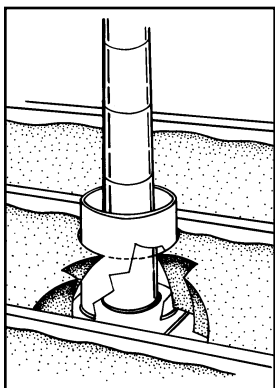

Figure 3
- Do not cover or hand pack insulation around bare stove pipes, electrical fixtures, motors, or any heat-producing equipment such as recessed lighting fixtures (unless they are IC – insulation contact – rated). Keep at least a three-inch space between these materials and insulation (Figure 3). The “Attic bypasses” Home Energy Guide gives detailed instructions on how to seal air leaks around these fixtures.